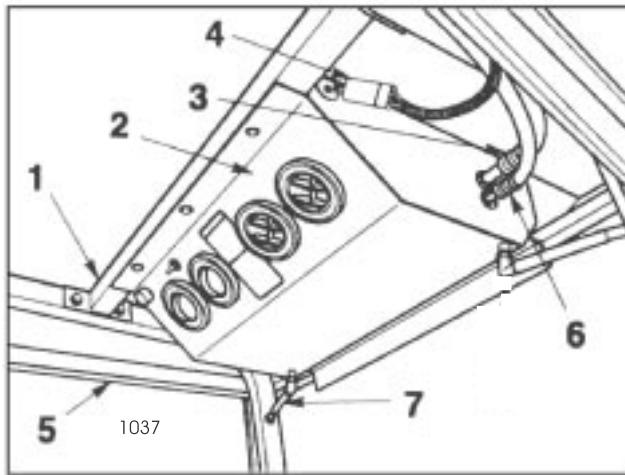
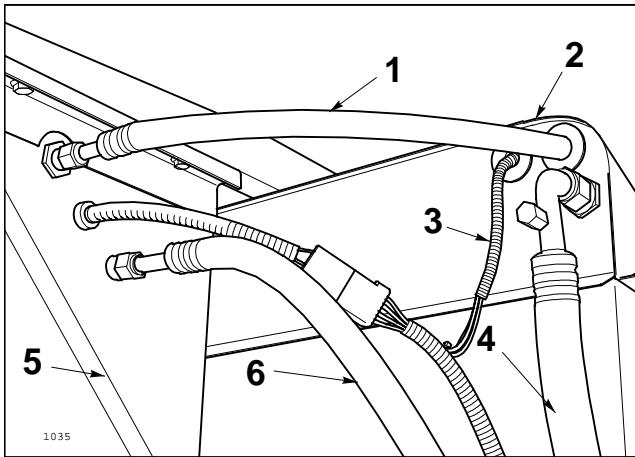

FIG. 9
FIG. 10
2. Remove protective cap and connect Refrigeration Hose 95-2198 (large dia.) to top port located on R.H. side of Blower Assembly (FIG 9).
4. Loosely secure front of Blower Ass'y to Enclosure Cover Assembly with (3) 1/4" flange screws.
5. Swing Blower Assembly up and into place. Loosely secure to Cross Tube Assembly with (3) 1/4" flange screws. See FIG. 9.
6. Slide Cross Tube forward as far as possible and secure with (4) 3/8" x 1" capscrews.
5. Route Refrigeration Hose 95-2199 from Blower Assembly through 1-1/4" dia. hole in rear of Enclosure Cover and connect to Condenser Ass'y as illustrated in FIG 10.
6. Connect Refrigeration Hose #95-2200 at rear of Enclosure Cover at blue service port. See FIG. 10.
8. Connect Blower Wire Harness to Condenser Ass'y. Insert Wire Harness through hole in rear of Enclosure Cover and connect to Blower Ass'y. See FIG. 9 and FIG. 10.